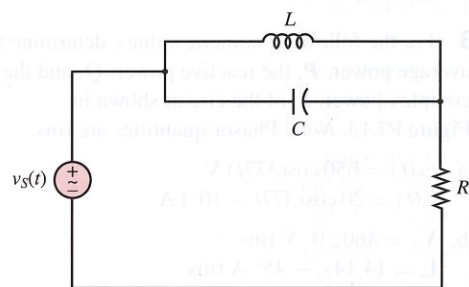

Figure P7.16
7.16 For the circuit shown in Figure P7.16, assume $C = 265 \mu\text{F}$, $L = 25.55 \text{ mH}$, and $R = 10 \Omega$. Find the instantaneous real and reactive power if: